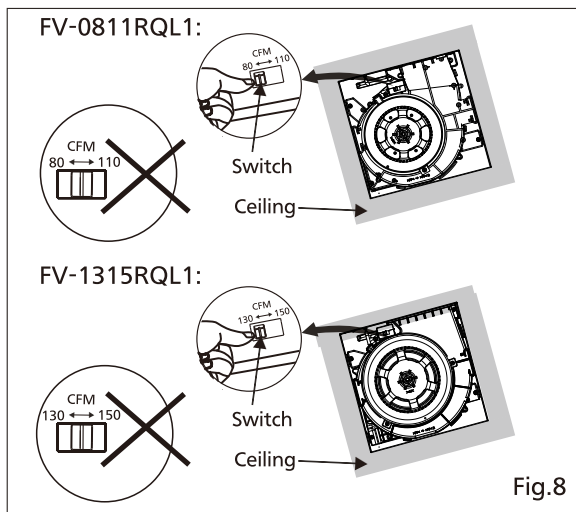

Fig.8
10. Select the air volume speed by adjusting the switch. For FV-0811RQL1: Factory setting is "80" position; sliding "110" is high airflow position. (Fig.8). For FV-1315RQL1: Factory setting is "130" position; sliding "150" is high airflow position. (Fig.8).